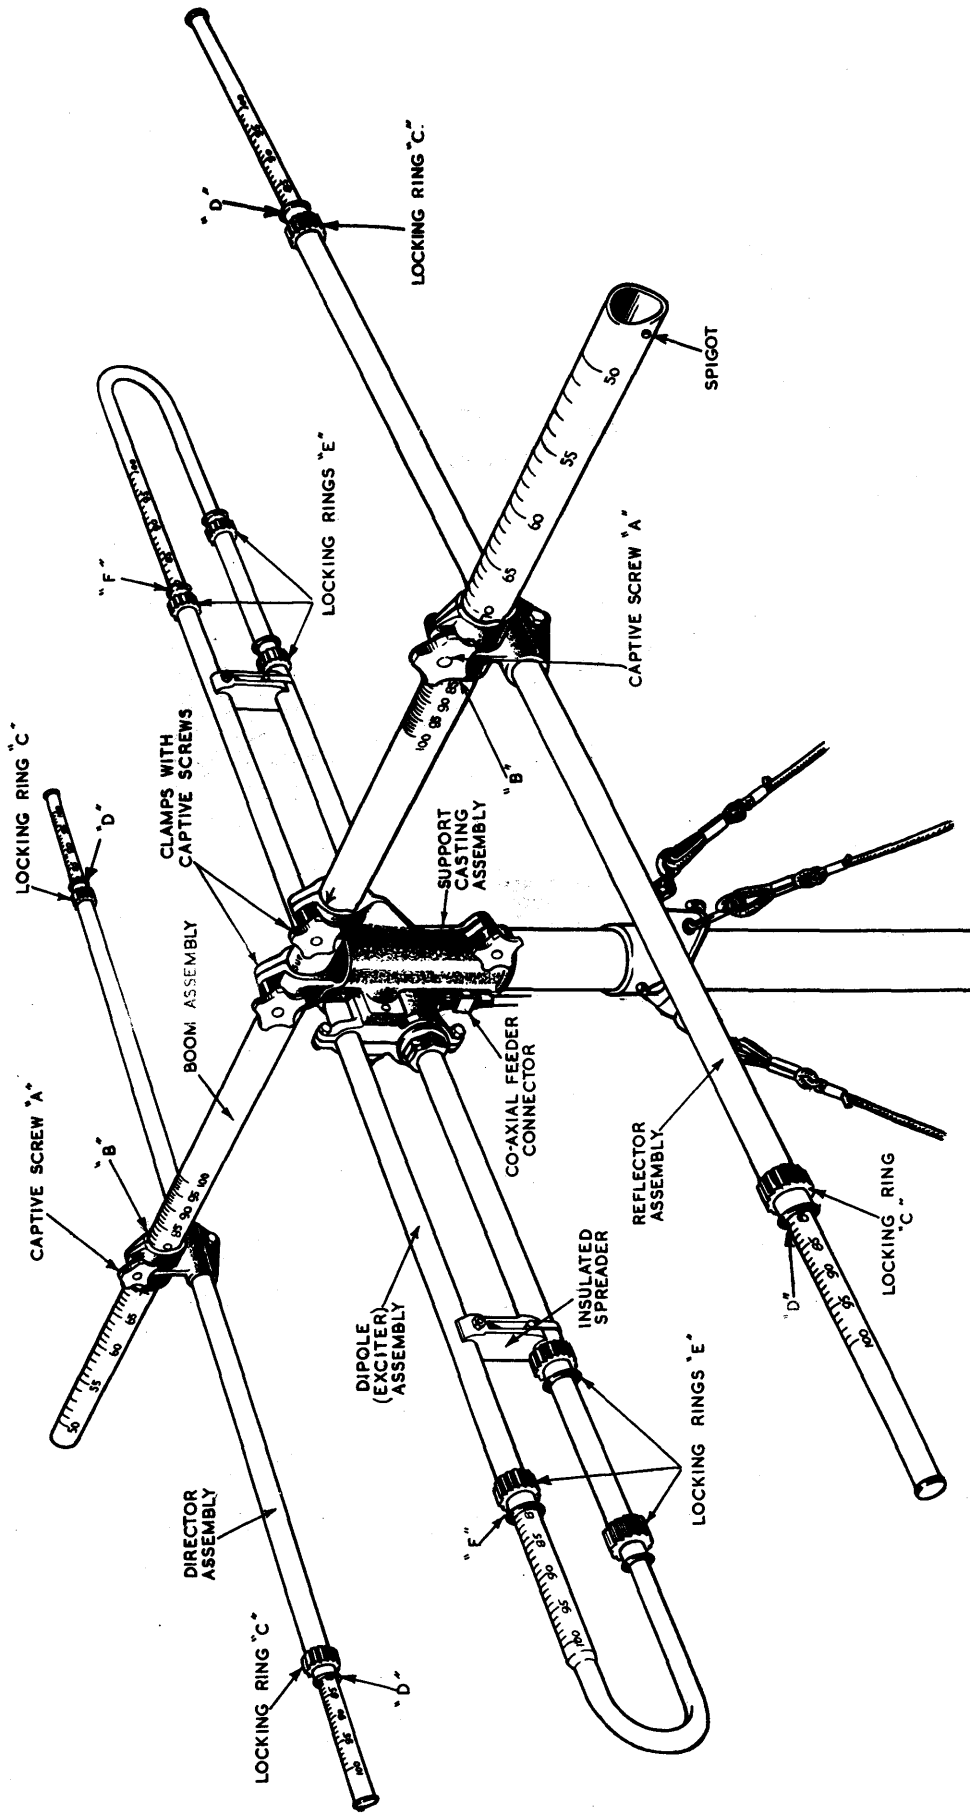
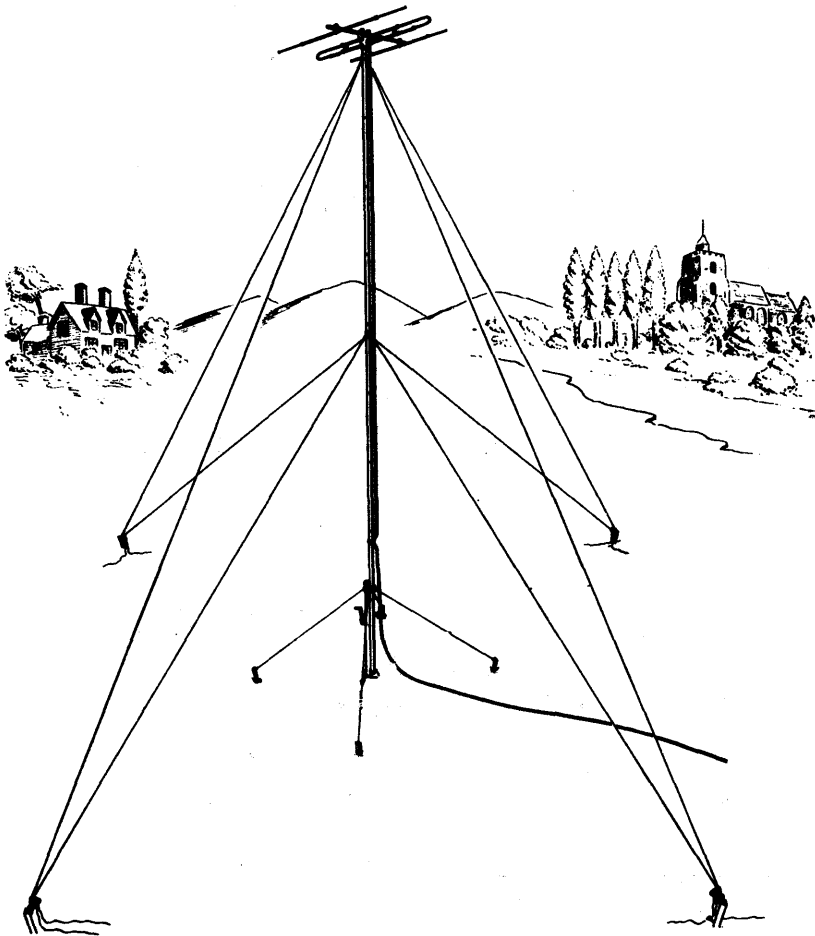
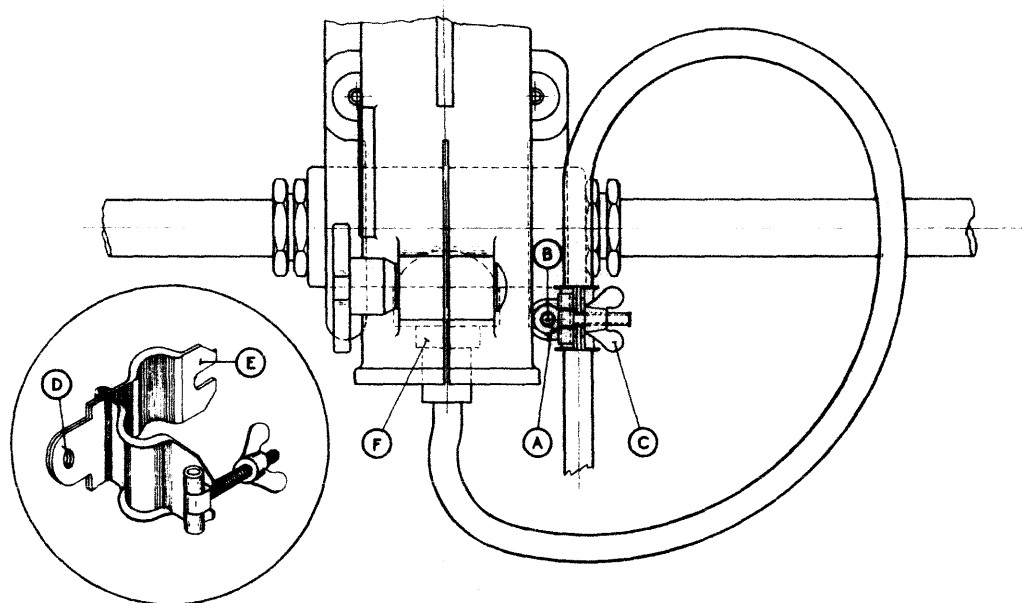

FIG 8 ARRAY MOUNTED HORIZONTALLY ON MAST (SET UP TO 80 MC/S)
FIG. 9. THE 36 FT. MAST
FIG. 10. FITTING CABLE CLAMP TO DIPOLE ASSEMBLY.
The socket of the support mounting, together with its clamp and captive screws enables the array to be mounted horizontally to the top of a 36 ft. Mast (Fig. 9), or vertically on a telegraph pole (Fig. 12).
(5) Setting up the Aerial Array to the desired frequency (Fig. 8)
- (i) Loosen (anti-clockwise) the captive screw "A" on the clamp and slide the director or reflector element along the boom until the arrowhead exactly points to the desired frequency mark (80 Mc/s), as shown at "B" in Fig. 8. Clamp the element in position by tightening (clockwise) the captive screw "A".
Loosen (anti-clockwise) the locking rings "E" at the end of each tube and slide out the trombone extensions until the desired frequency mark (80 Mc/s) is exactly flush with the inner lip of the tube aperture, as shown at "F" in Fig. 8. Tighten all locking rings "E".
(2) Fitting Aerial Array to the Mast (Fig. 10)
If not already attached fit the cable clamp in position on the dipole assembly as follows. Referring to Fig. 10, remove the nut (A) from bolt (B) and with the wing nut (C) uppermost pass the bolt (B) through the hole (D) in the flange of the clamp. Replace and tighten the nut (A). Unscrew wing nut (C) until the hinged outside arm (E) of the clamp can be opened to its fullest extent. Form a loop in the cable, as shown in Fig. 10 and, at a point approximately 15 inches from the terminating socket (F), place the cable in the clamp. Close the hinged arm (E) and clamp the cable in position by tightening the wing nut (C). During the erection the coaxial feeder should be securely lashed to the mast at suitable intervals.
(3) Alignment of Aerial Array
- (a) After the mast, with the aerial array attached, has been completely erected (i.e. the stage reached to the end of Section 10, para. (5) of the User Handbook quoted in para. 1 above) (See also Fig. 9), the aerial should be aligned with the aerial at the distant station. If the aerial at the distant station can be seen then the local mast should be rotated by means of a tommy bar inserted through a hole in the bottom mast section. Loosen the erector clamping screw and rotate the mast by hand until the director element of the aerial array is nearest to and the reflector element is farthest away from the aerial at the distant station.
- (c) At this stage the coaxial feeder cable should be connected to the terminating plug on the dipole assembly and secured in position by tightening the locking ring on the socket ((F) in Fig. 10).
- (1) Proceed as instructed in Section 11 of the User Handbook for Mast 36 ft., Steel, Lightweight D.F., No. 1, (W.C. Code No. 10747) and when dismantling has reached the stage outlined in Section 11, para. (2)(c) of the handbook, loosen the captive screw that clamps the support casting assembly to the mast spigot and detach the aerial array. (See Fig. 8).
- (2) Referring to Fig. 10, unscrew to its fullest extent the cable clamp wing nut (C), lift the hinged arm (E) and remove the coaxial feeder cable from the clamp. Replace hinged arm and tighten the wing nut.
- (3) Loosen (anti-clockwise) the locking ring (F) on the coaxial feeder socket and detach the feeder from the coaxial termination on the dipole element mounting. Neatly coil and secure the feeder cable, avoiding sharp bends or kinks, and stow.
- (4) Referring to Fig. 8, unscrew (anti-clockwise) the locking rings "C" and "E" on the director, the reflector and the dipole elements, slide the extensions back inside tubing and tighten the locking rings.
- (5) Loosen the captive clamping screws "A" on the director and reflector elements and slide each element clear of the boom assembly.
- (6) Loosen the two boom assembly captive clamping screws on the support casting and remove the boom.
- (7) Strap, or bind, the three elements and the boom assembly into a neat bundle and stow.